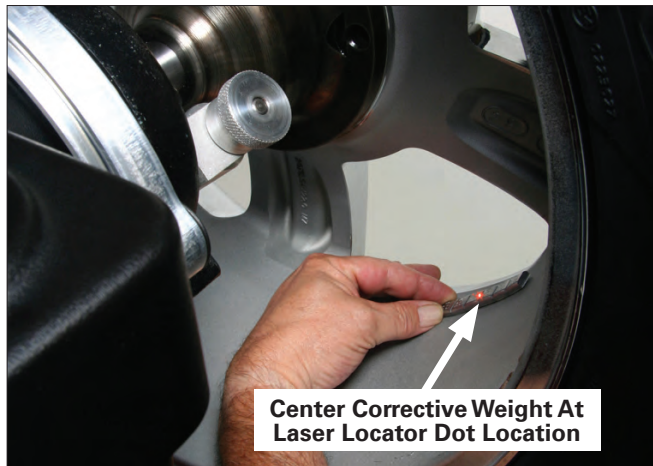

Figure 13 - Centering Corrective Hidden Weight At Laser Locator Dot Location
**8.** Center and attach the outboard corrective weight at laser locator dot location as shown in figure 13.